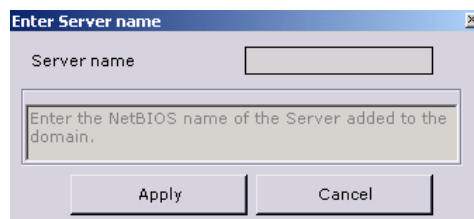

Fig. 6.2—5 Adding a Server to a domain
3. In the **Server Name** field, enter the NetBios name of the Server to be added to the domain (see Fig. 6.2—5).